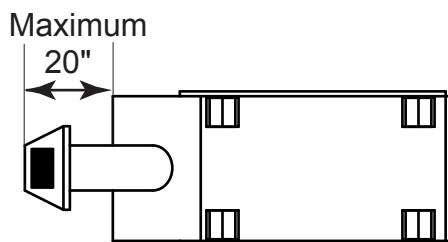
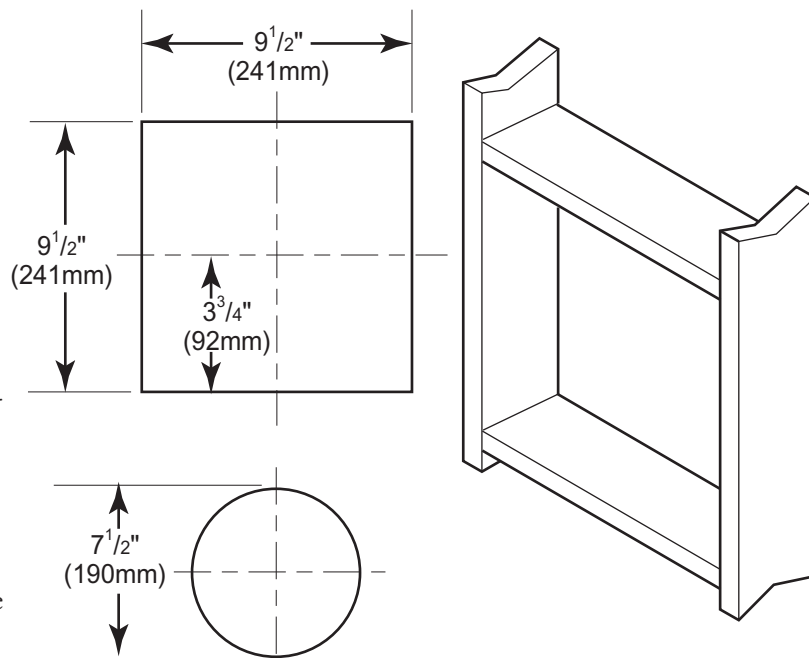

Figure 11 - Rear Vent Application, Maximum Horizontal Distance
Figure 12 - Vent Opening Requirements
- The maximum horizontal distance between the rear of the appliance and the outside of termination is 20" (508 mm). See Figure 11.
1. Locate and cut the vent opening in the wall. For combustible walls first frame in opening. See Figure 11.
Combustible Walls: Cut a 9 $\frac{1}{2}$ " H x 9 $\frac{1}{2}$ " W (241mm x 241mm) hole through the exterior wall and frame as shown. See Figure 12.
3. Attach vent pipe assembly to the fireplace. Set fireplace in front of its permanent location to insure minimum clearances. Mark the wall for a 9 $\frac{1}{2}$ "H x 9 $\frac{1}{2}$ "W (241mm x 241mm) square hole (for noncombustible material such as masonry block or concrete, a 7 $\frac{1}{2}$ " [190mm] diameter hole is acceptable). See Figure 11. The center of the hole should line up with the center line of the horizontal rigid vent pipe end. Be sure to allow for minimum rise. Cut a 9 $\frac{1}{2}$ "x9 $\frac{1}{2}$ " (241mm X 241mm) square hole through combustible exterior wall (7 $\frac{1}{2}$ " [190mm] diameter hole if noncombustible). Frame as necessary. Allow $\frac{1}{4}$ " minimum rise per foot. See Figure 12.
1. Establish vent hole through the wall. *See Figure 12, page 17.*